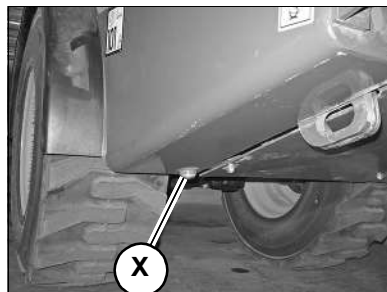

Figure 91 – Hydraulic Oil Drain
5. Remove the drain plug (X, Fig. 91) and allow the oil to drain completely.